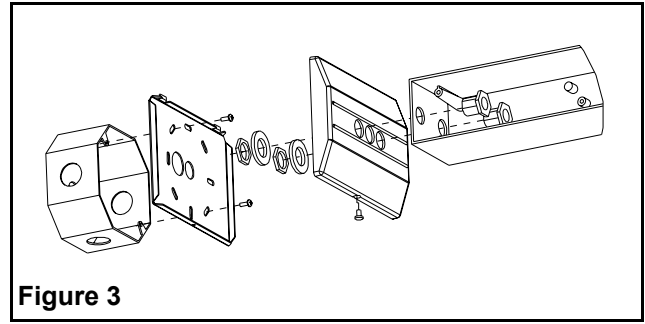

Figure 3
2. Remove the proper knockout in the canopy plate to mount to the junction box - check the orientation of the back box (see fig. 3).
5. Mount the canopy to the back box using the hardware supplied. Insert the threaded nipples through the back box knockouts, canopy and nylon washer. Thread a nut on each nipple; the nuts should be in the canopy (see fig. 3).